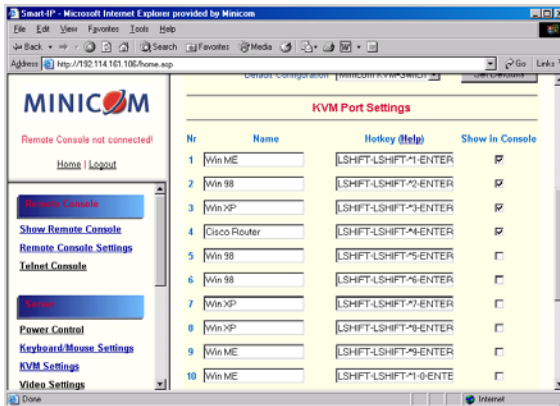

Figure 17 KVM Port Settings
2. Press **Update**. The number of rows chosen appears in the KVM Port Settings list. See Figure 17.